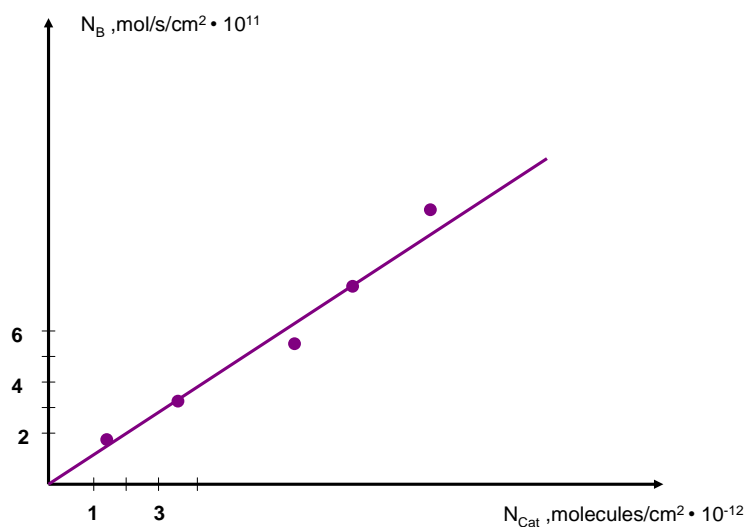

Figure 2a. The dependence of N_b on N_{Cat}
3. a) *TOF* is often used to describe the operation of deposited catalysts. To make a deposited catalyst one has to deposit atoms of metal on the inert surface. These atoms form catalytic sites. The dependence of the rate of the catalytic reaction upon the amount of metal atoms deposited on 1 cm^2 of the surface (less than one monolayer) is shown in Fig. 2a. Calculate *TOF*.